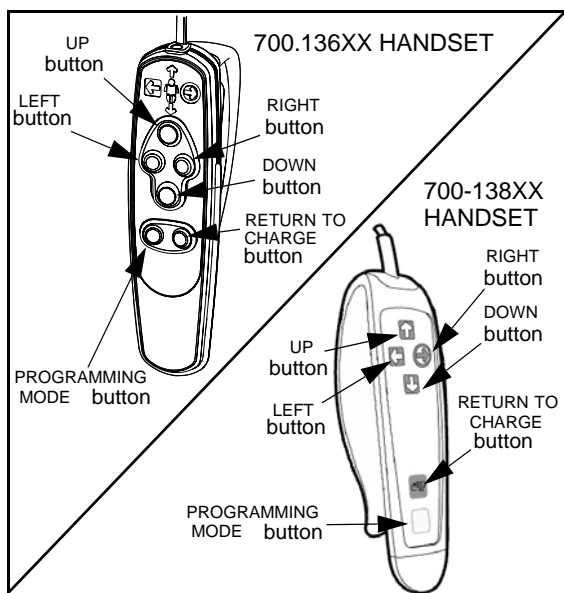

Fig. 5
The V4's handset unit is used to operate the ceiling lift. Each function is described in Fig. 5. The UP and DOWN buttons raise or lower the spreader bar. With the four-function model, the LEFT and RIGHT buttons activate a lateral motor to move the lift along the track. If you have a two-function model, the LEFT and RIGHT buttons will not function, and the lift must be moved manually.
The PROGRAMMING MODE button allows you to modify the functions of the lift (see Fig. 5). Refer to the "V4 Programming" section for more information.
- 2) Move the ceiling lift directly over the patient. With the four-function model, use the left and right buttons on the handset (see Fig. 5). With the two-function model, simply hold the ceiling lift’s spreader bar and drag it along the track.